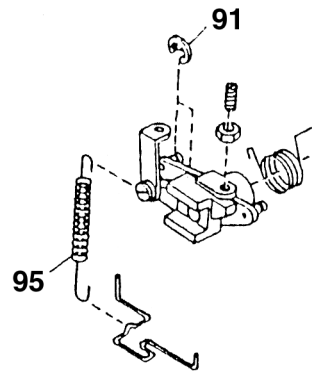

Fig. 29a
- Turn out both lock washers 91 (fig. 29a).
- Disconnect spring 95 (fig. 29a).
- Refit both lock washers 91 (fig. 29a).